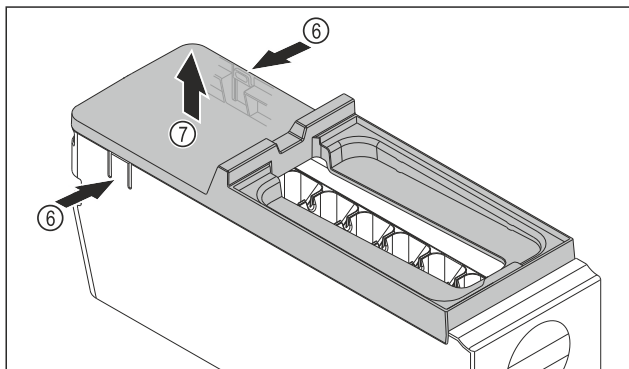

Fig. 198
- ▶ Removing the EasyTwist-Ice body cover: Push the tabs Fig. 198 (6) on both sides of the EasyTwist-Ice body with one hand.
- ▶ Use the other hand to remove the cover Fig. 198 (7) upwards.